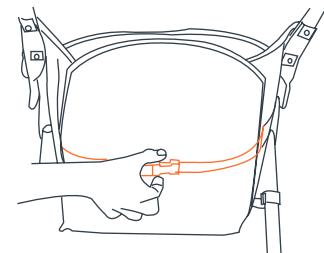
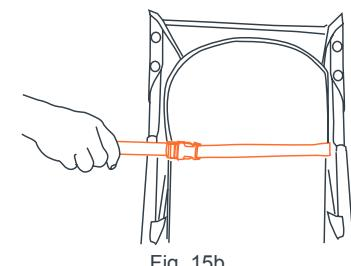

Fig. 15a
Fig. 15b
- 15) • The seat has a multiple position recline that is controlled by a strap and buckle assembly behind the seat (Fig. 15a). To recline the seat, loosen the strap through the buckle and adjust to the required recline position (Fig. 15b). To place the seat back in a more upright position, press upward on the seat back with one hand while pulling the strap through the buckle with the other. The strap will lock automatically. **The upright position should be used only for a child that is at least 6 months old.** Always re-adjust the safety harness, including the shoulder belts, when repositioning the seatback.